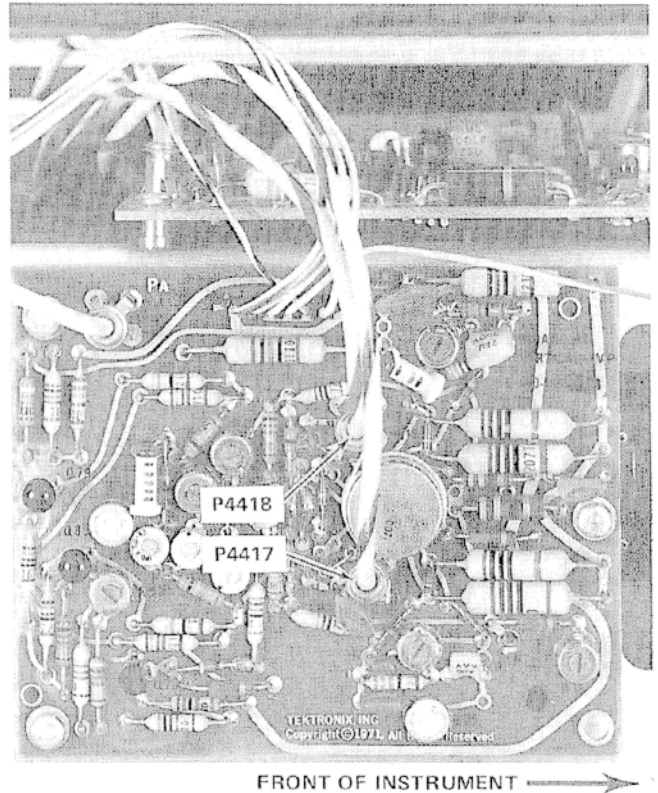

Fig. 3-3. Location of P4417 and P4418 on A44-Vertical Amplifier board.
- Disconnect coaxial connectors P4417 and P4418 from A44, Vertical Amplifier board (see Fig. 3-3).